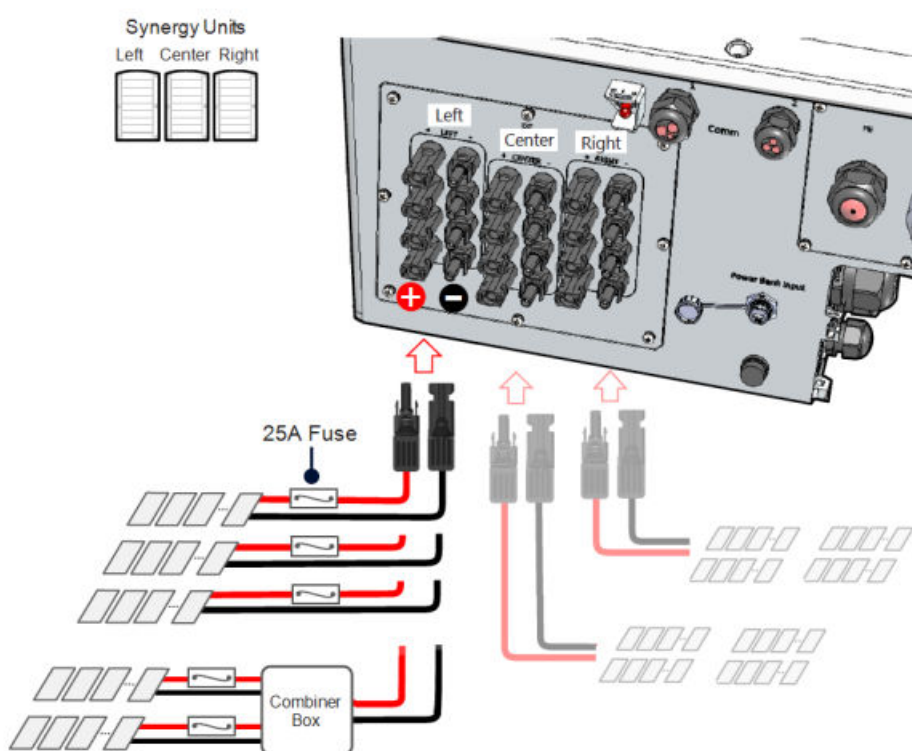

Figure 20: Connecting PV strings to a Synergy Manager with MC4 Connectors
- When installing a system with three or more PV strings per a Synergy Unit (whether connected directly or via a combiner box), fuses are required. In SolarEdge systems, fuse sizes are different depending on the optimizers model. See Figure 20 and Figure 21 below.
Figure 20 shows the connection of PV strings and Figure 21 shows the connection of PV arrays to the Synergy Manager.